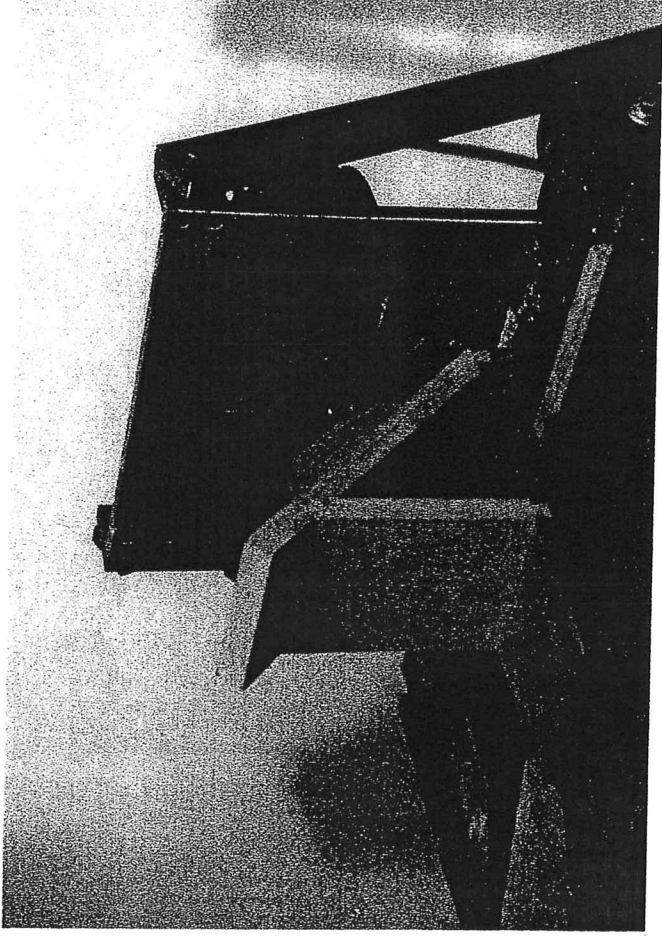

Fig. 25
2. Using a 45° fixture, cut 1/2 of pin on short side of the 45° ends. Be sure the corner of pin is level with the board surface as in step 8 of sliding dovetail instructions. (fig. 25)